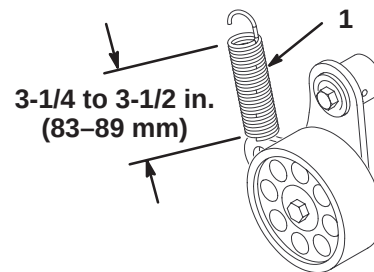
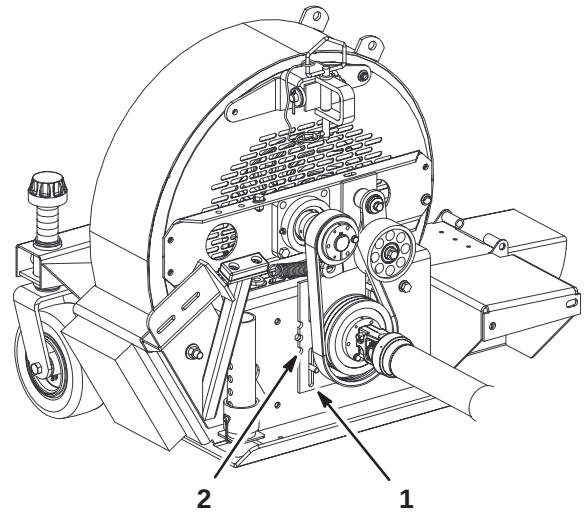

Figure 12
Figure 13
2. A new belt is properly tensioned when the idler spring body is extended to a length of 3-1/4 to 3-1/2 in. (83-89 mm) (Fig. 12).
- B. Move the belt tensioner (Fig. 13) down until the idler spring body is extended to a length of 3-1/4 to 3-1/2 in. (83–89 mm) (Fig. 12), then tighten the nuts.